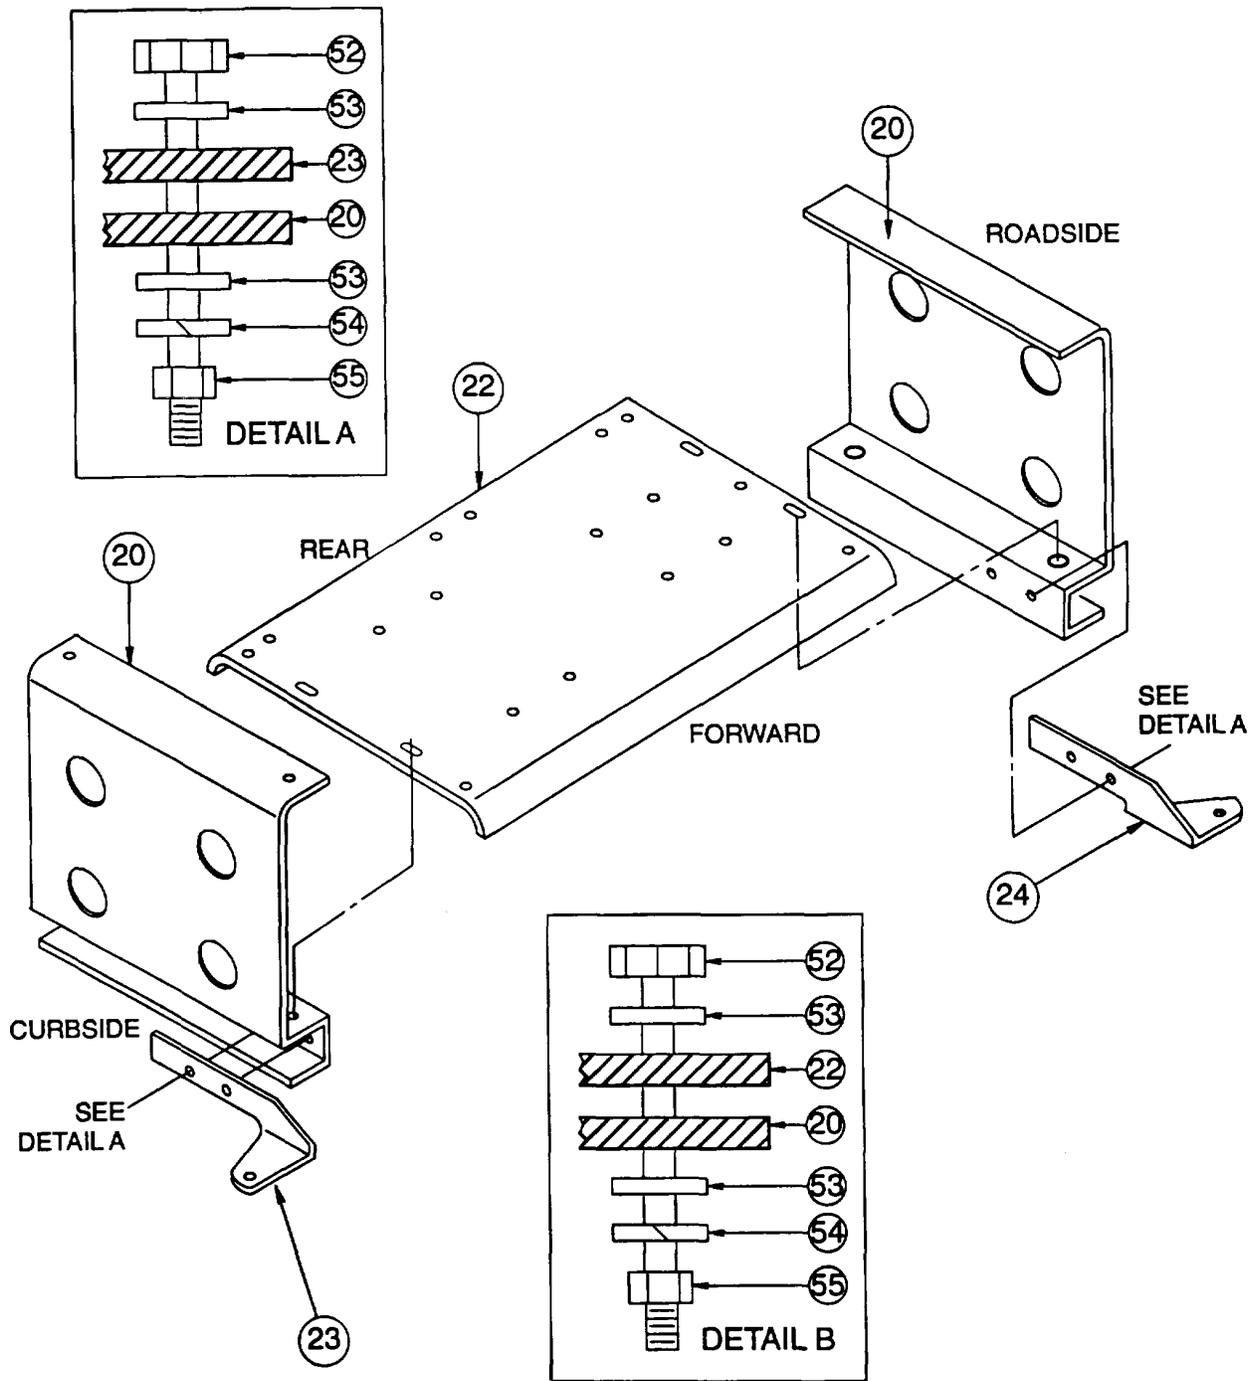

Figure 2-4. Radio Rack Bottom Shelf and Side Brackets Assembly
2-11.2.2 Assembly Procedure. The assembly of the right hand and the left hand radio rack side bracket (20) to the bottom mounting plate (22) are the same. Refer to Figure 2-4 and proceed as follows:
- a. Insert hex cap screw (52) through flatwasher (53). Insert hardware combination through bottom mounting plate (22) and side bracket (20) holes, from the top (2 places).
- b. Place flatwasher (53), lockwasher (54) and hex nut (55) on hex cap screw (52). Hand tighten nut.
The assembly of the right hand and left hand mounting leg bracket are the same. Refer to Figure 2-4 and proceed as follows: